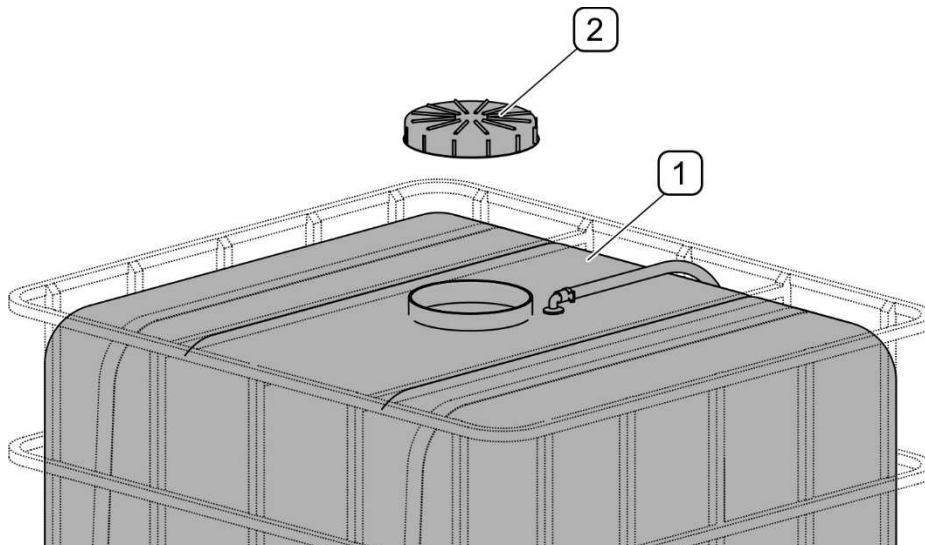

FIGURE 4.2 Filling the tank
PRONAR R1000 tank is designed for filling with clean water. Fill the tank (1) through the filler opening secured with a cap (2) (FIGURE 4.2). Before filling the tank, make sure that the drain valve is closed and there are no contaminations and other objects inside the tank. The tank capacity is 1 000 litres [L]. Depending on version, the tank can be equipped with a scale graduated in litres [L] placed on one of the walls in order to facilitate dispensing fluids.